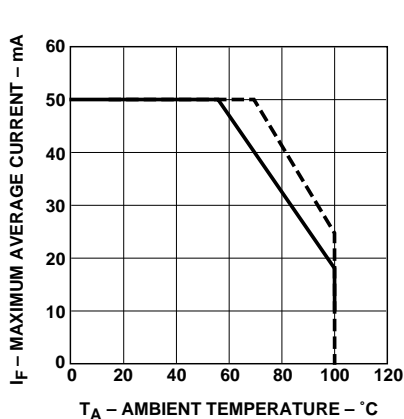

Figure 1. Maximum forward current vs. ambient temperature. Derating based on T_{JMAX} = 130°C.
1. Derate linearly as shown in Figure 1.